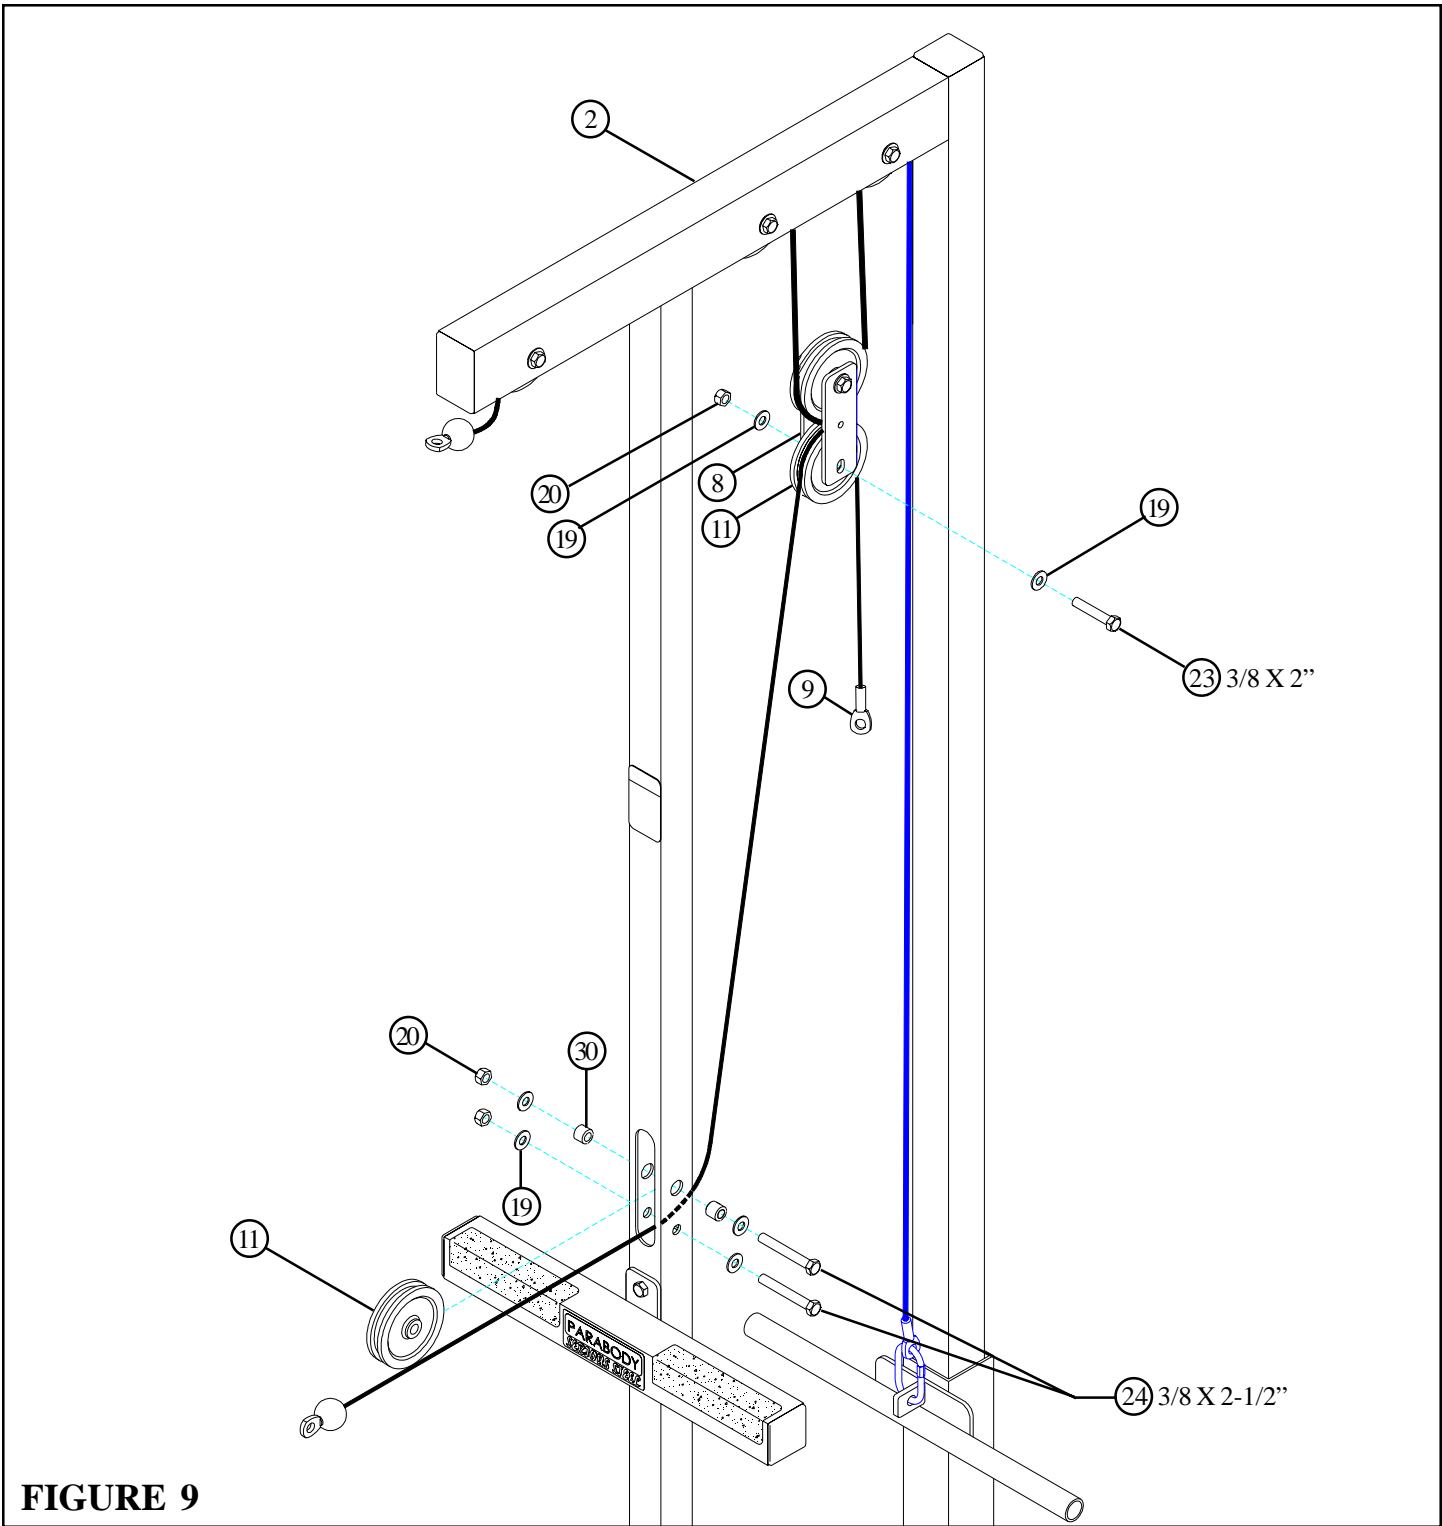

FIGURE 9
- Route the end of the second CABLE (9) through the slot on the UPRIGHT (2) then **SECURELY** assemble one 3-1/2" PULLEY (11) to the UPRIGHT (2) using two 3/8 X 2-1/2" BOLTS (24), two 3/8 X 3/8" SPACERS (30), four 3/8" WASHERS (19), and two 3/8" LOCK NUTS (20). (NOTE: The CABLE (9) should be routed between the pulley and the retaining bolt as shown in FIGURE 9.)
- Loop the CABLE (9) around one 3-1/2" PULLEY (11) as shown in FIGURE 9.
- **LOOSELY** assemble the 3-1/2" PULLEY (11) to the 3/16 X 1-3/4 X 5-1/4" PLATES (8) using one 3/8 X 2" BOLT (23), two 3/8" WASHERS (19), and one 3/8" LOCK NUT (20). See FIGURE 9.
- **SECURELY** tighten the two 3/8 X 2" BOLTS (23) of the 3/16 X 1-3/4 X 5-1/4" PLATES (8).